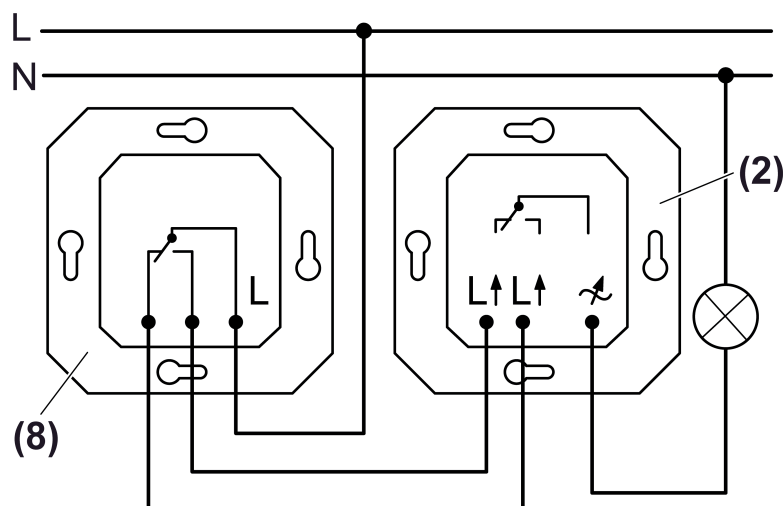

Figure 3: Changeover switch
- Connect the dimmer (2) and the changeover switch (8) according to the connection diagram (figure 3).